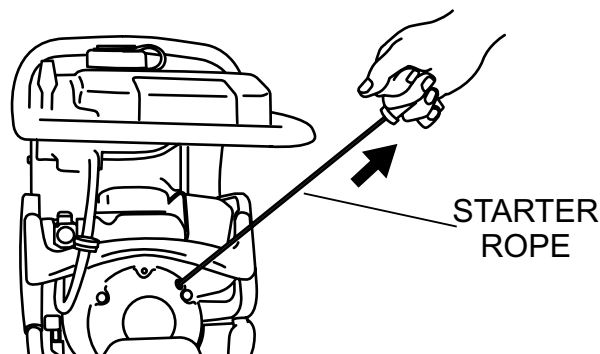

Figure 8. Recoil Starter
3. Grip the starter rope handle (Figure 8) and pull it until you feel a slight resistance. Then pull sharply and quickly. Return the handle to the starter case before releasing.